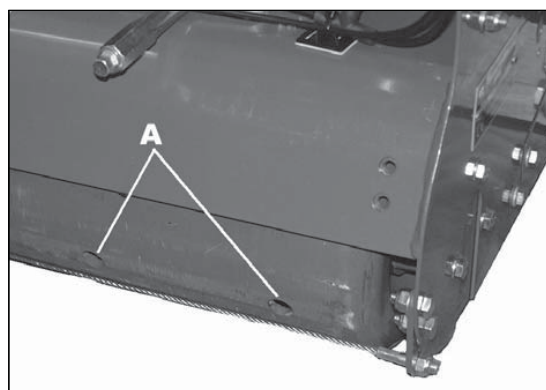

Fig 11.4c
- | Rullo posteriore [A] (Fig. 11.4c) - solo Marquis e Super Bowl.